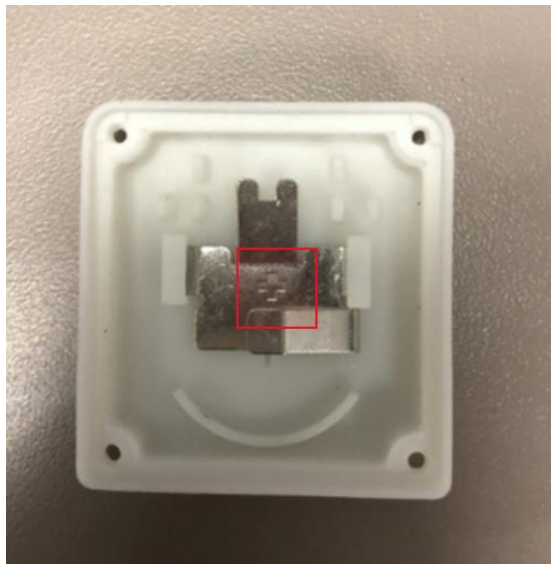

Figure 1-5: Positive Terminal on Battery cover
3. Check that the positive terminal contact is undamaged and still properly seated on the battery cover. It should look similar to Figure 1-5